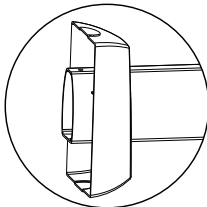

figure 3
3. Insert the Lower Cap over the end of the Main Arm then continue 'feeding' cables through the Main Arm and out the base of the Extender Arm (figure 3).